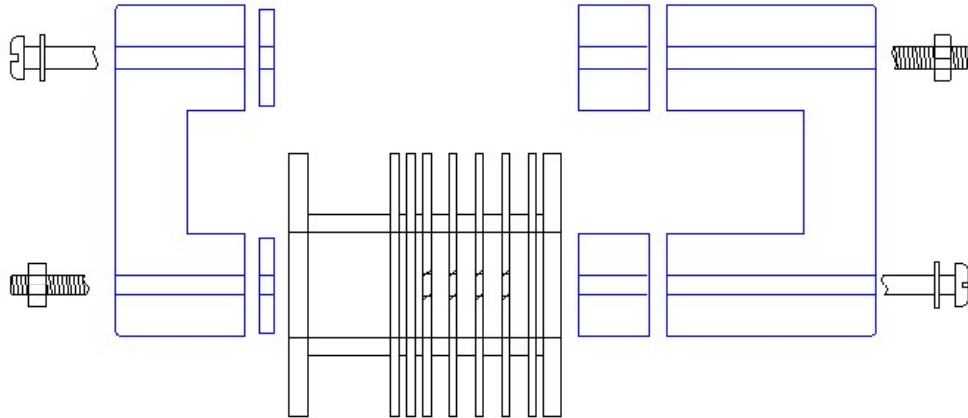

Figure 6
- 3) Study Figure 6 to become aware of the high voltages that are present on the board.
- all four (4) of the high voltage transformer leads are soldered to the board.